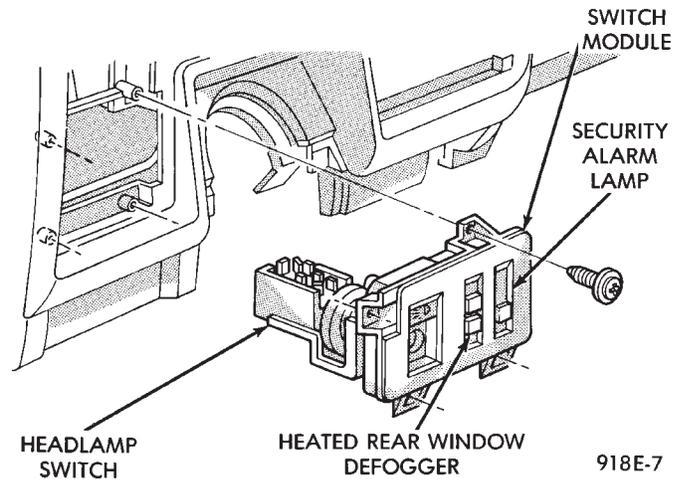

Fig. 35 Headlamp and Accessory Switch Module
- (2) Remove four screws attaching module to instrument panel (Fig. 35).